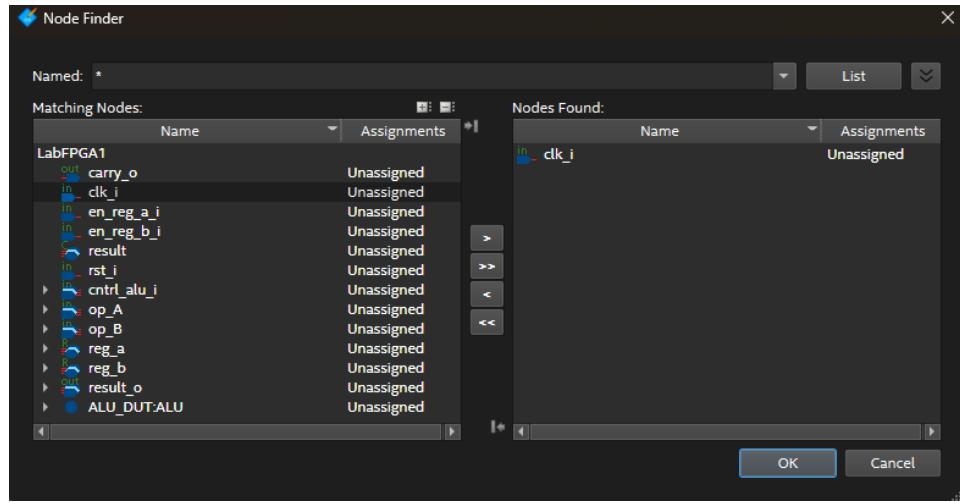

Figure 11. Node Finder
23. In the Node Finder window, **click List** to load all available design nodes. Select the input **clk\_i**, move it to the selected nodes list, as shown in Figure 11, and **click OK**. The signal will now appear in the cell.